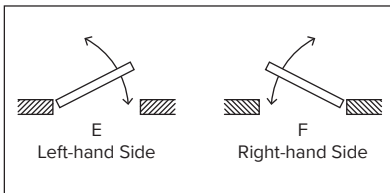

Fig. 3
Withdraw hinge pins from hinges, attach the 5/8" radius leaf to the jamb. Determine the opening direction of the door (Fig. 3) when placing the door against the hinged jamb. Will the door open on the left-hand side (E), or the right-hand side (F).